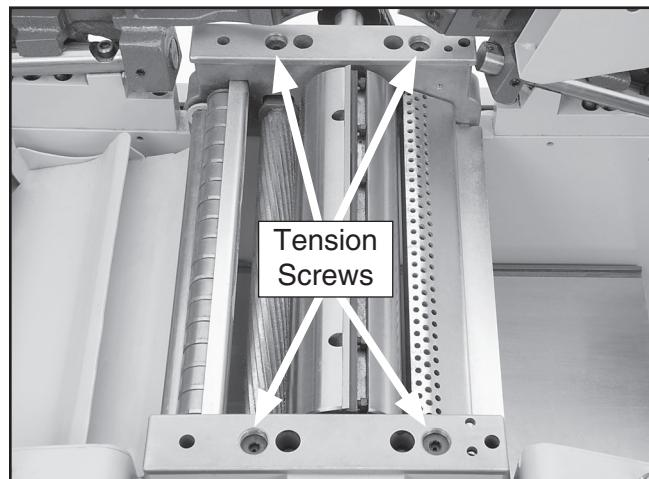

Figure 78. Spring tension screws.
1. Locate the four adjustment screws located on the top of the planer, as shown in **Figure 78**.